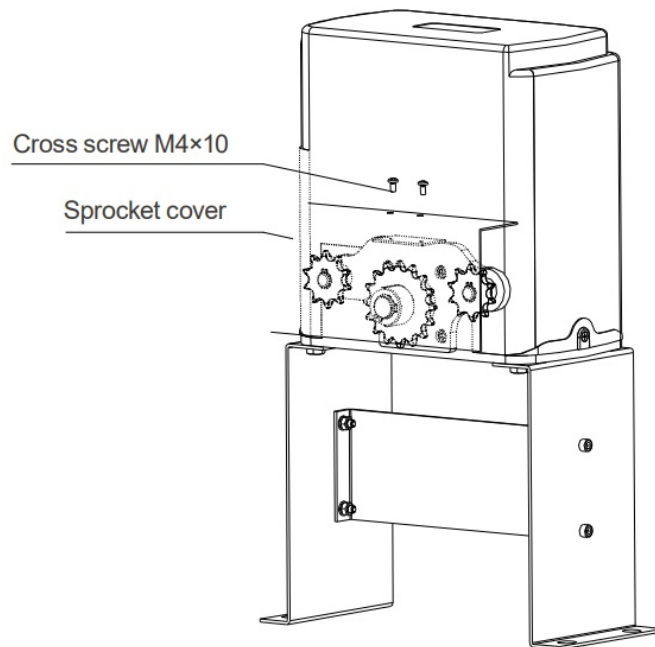

Figure 11
- Installation of sprocket cover is shown in Figure 11: